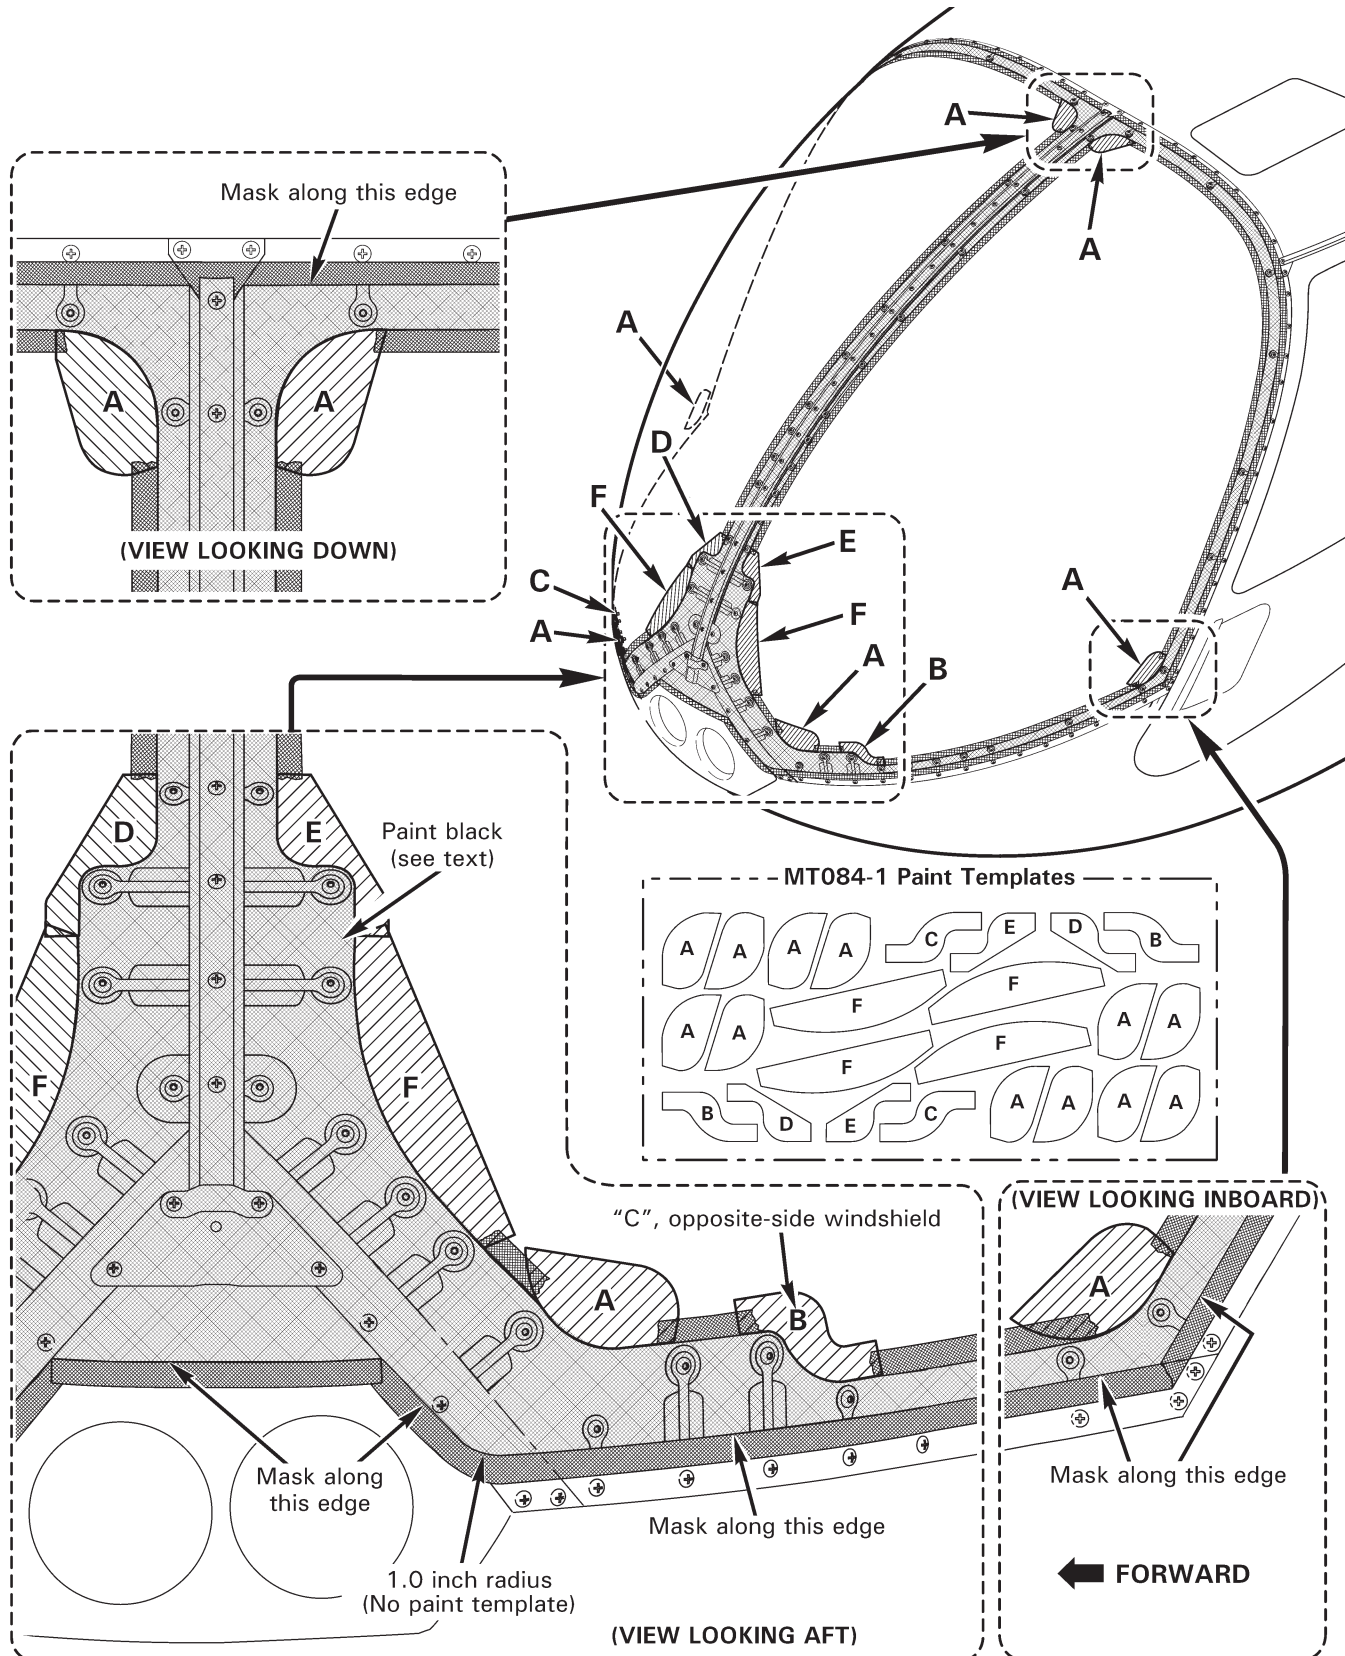

FIGURE 27-4 PAINT TEMPLATE LAYOUT
4. Refer to Figures 27-4 and 27-5. Using 3M vinyl tape (or equivalent), apply masking ("Tape 1" and "Tape 2") to windshield as shown. Apply MT084-1 paint templates on windshield as shown.
5. Refer to Figure 27-4. Using 3M vinyl tape (or equivalent), apply masking to windshield retainer edges, area near landing lights, and between MT084-1 paint templates as shown.
11. Refer to § 23-77. Apply black paint to windshield trim prepared surfaces per Figure 27-4.